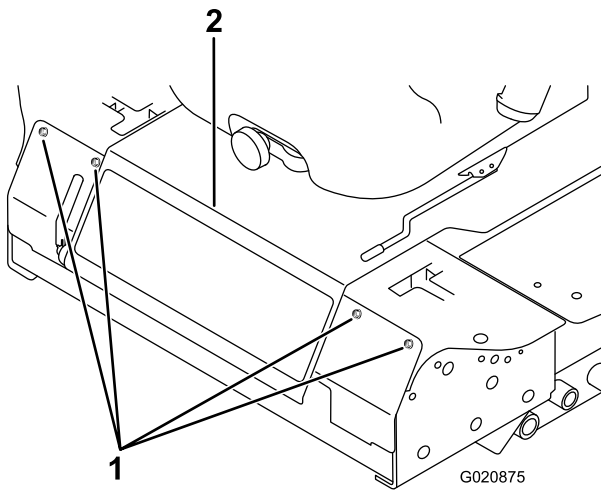

Figure 82
3. Remove the bolts securing the front panel and remove the panel (Figure 82).